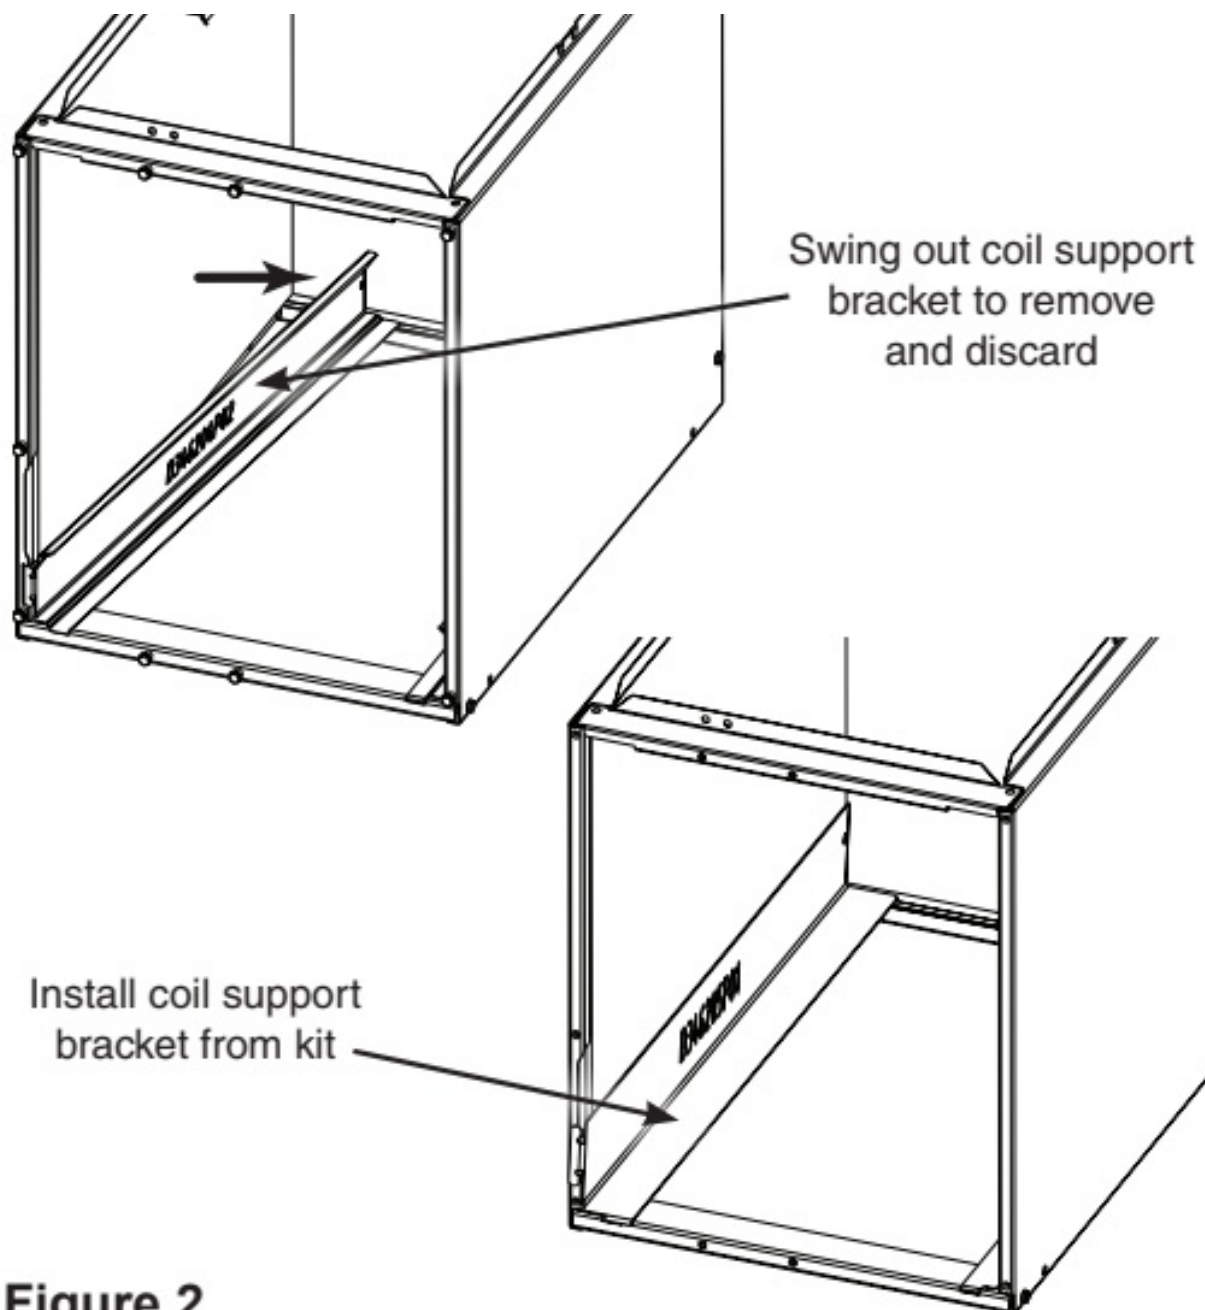
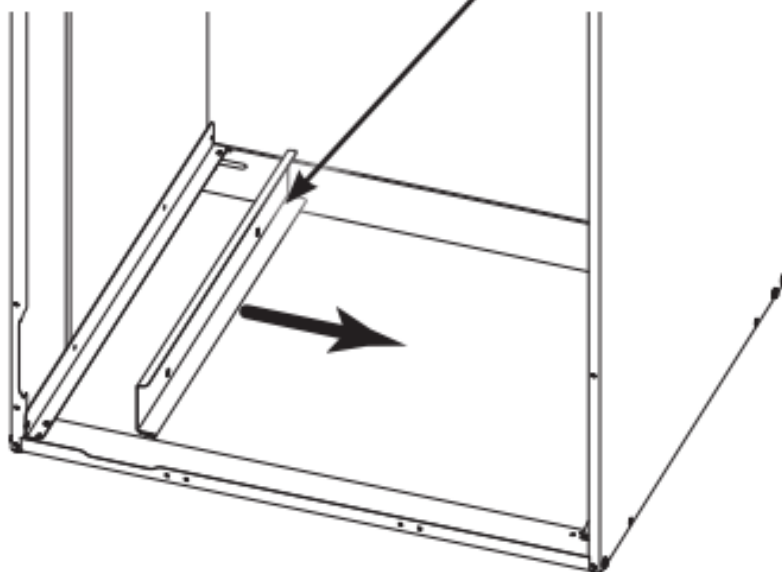

Figure 2
Figure 3
2. Modify coil and cabinet as shown in Figure 2, Figure 3, and Figure 4.